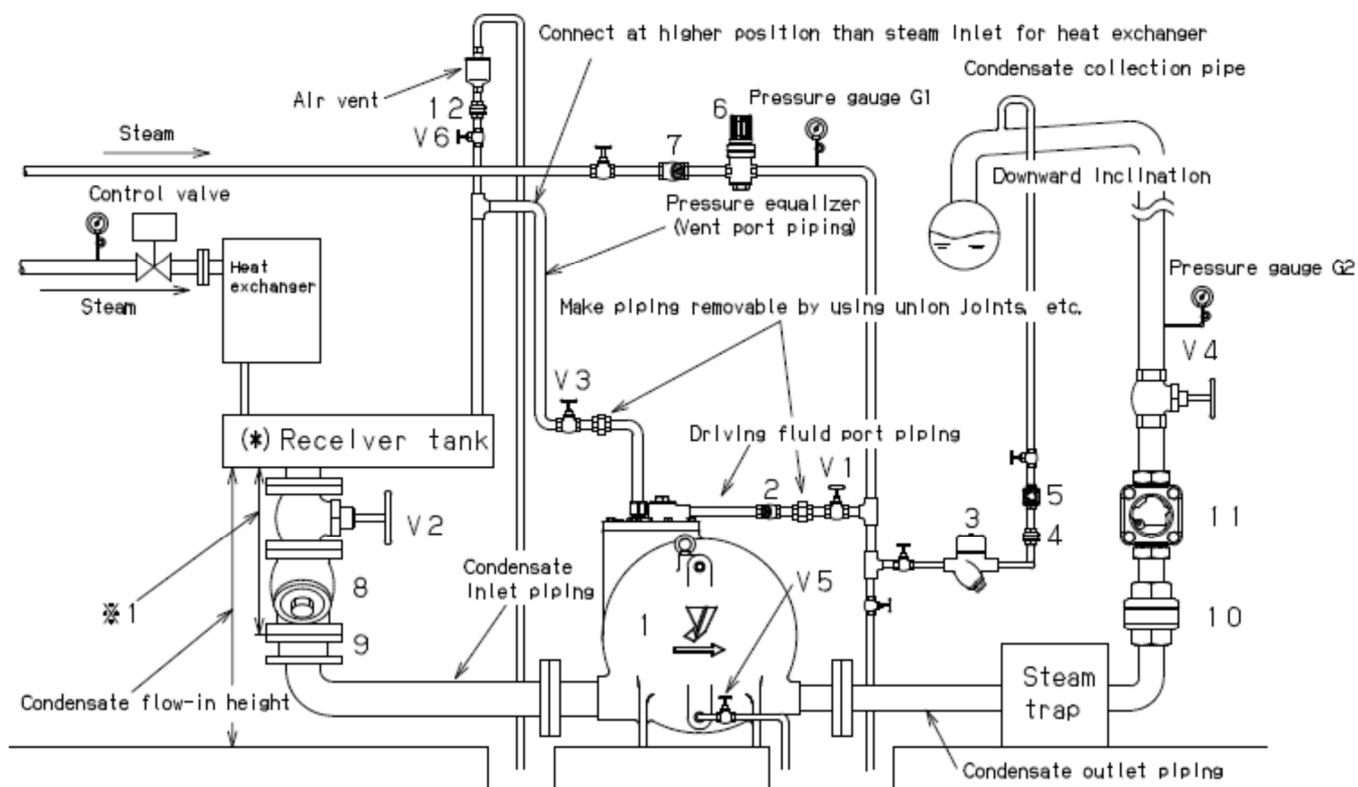

Fig. 6
- Be sure to install pressure equalizer at a place higher than the steam inlet of the heat exchanger. (See Fig. 6.)
- Be sure to attach air vent valve and check valve to pressure equalizer. (See Fig. 6.)
See Fig. 6 for marks and numbers of stop valves. Stop operation immediately when water hammer occurs, and close operating stop valves.